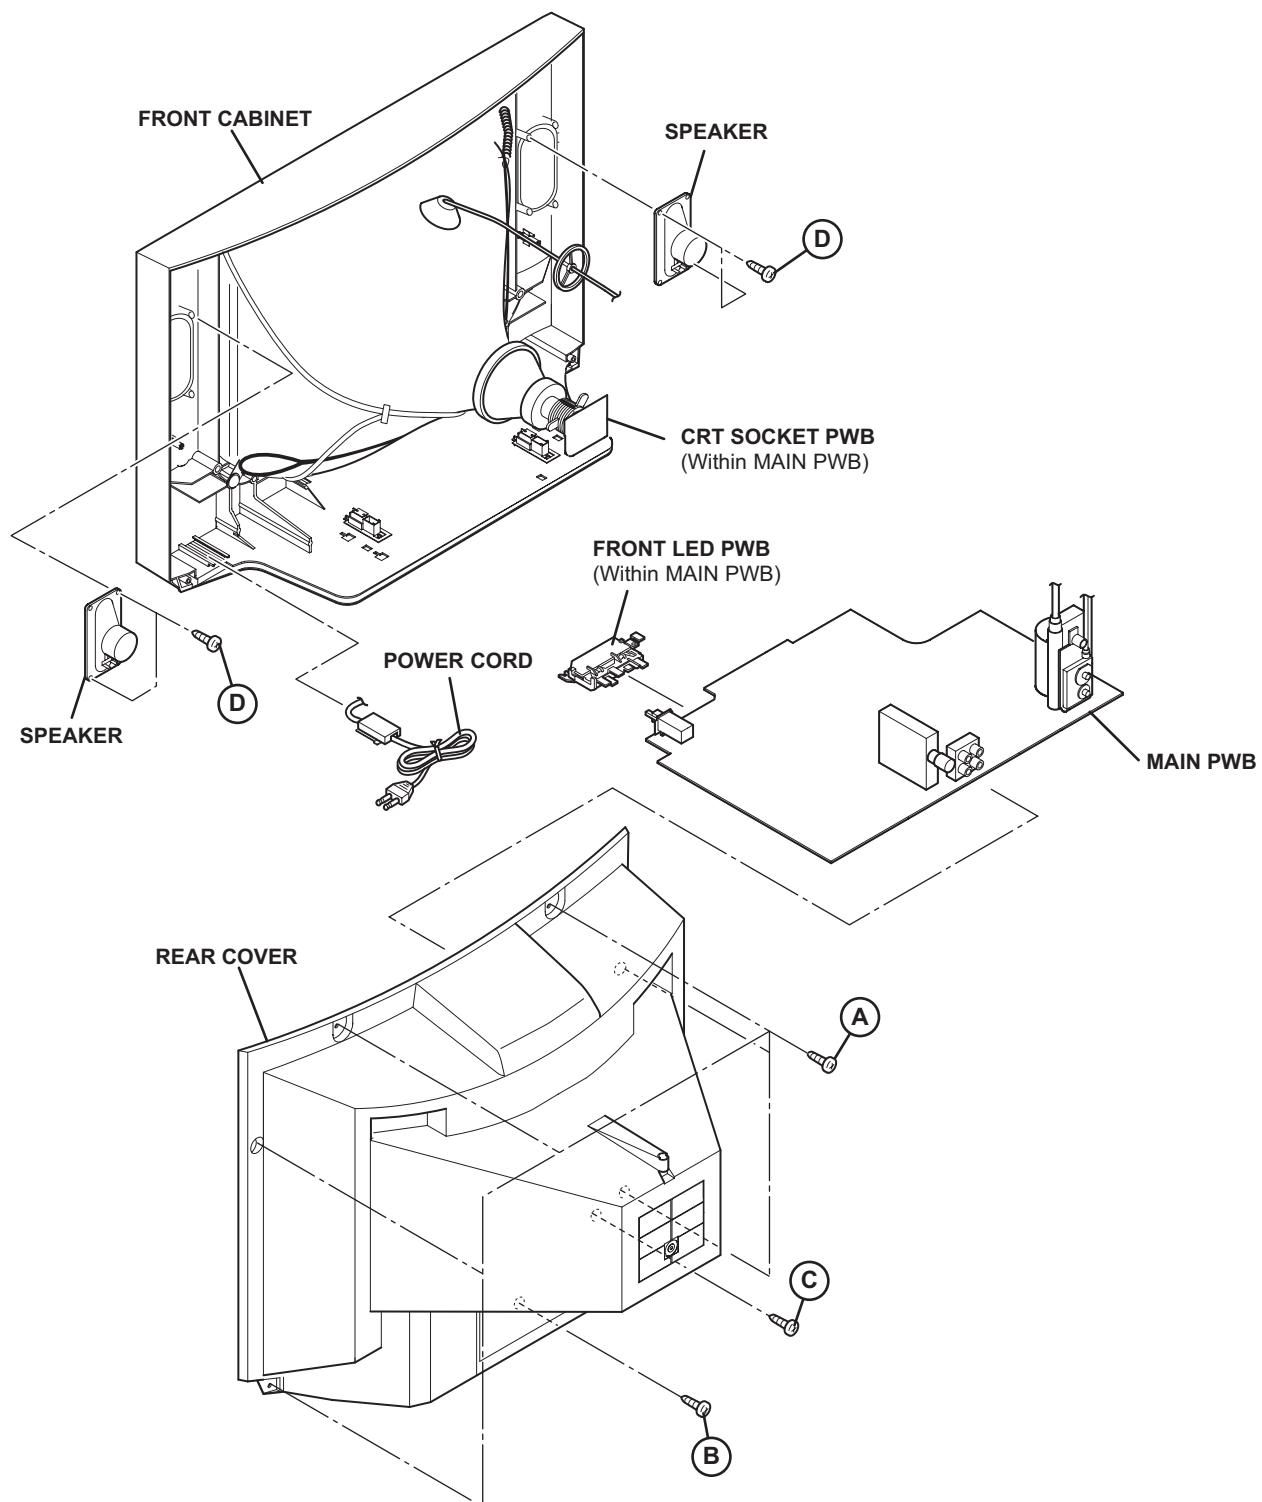

Fig.1
- (1) Remove the 2 screws [D] as shown in Fig.1.
- (2) Follow the same steps when removing the other hand SPEAKER.